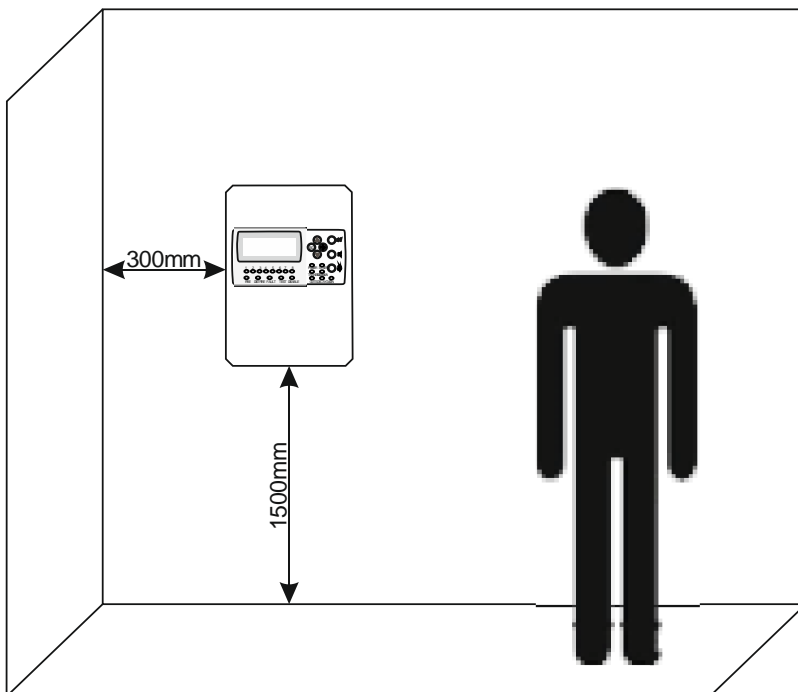

Fig. 1
- Choose the most suitable location for the fire alarm panel in the premise (Fig. 1), away from heating appliances, points of dust accumulation or access to water; ambient temperature between  $-5^{\circ}\text{C}$  and  $+40^{\circ}\text{C}$ . Warning: the fire alarm panel is not waterproof!